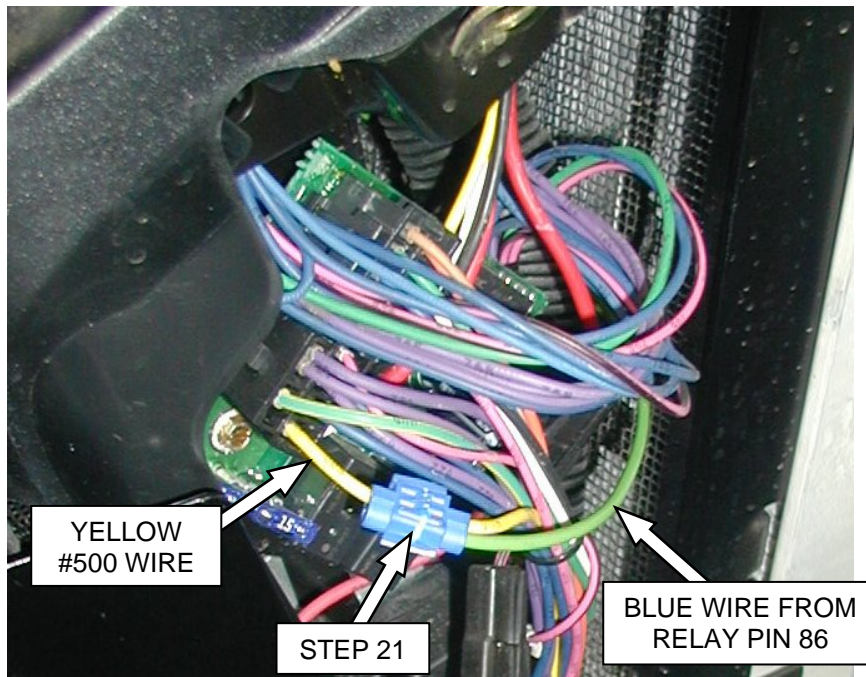

Figure 11
- 21) Route the 66" blue wire from relay PIN 86 to the tractor's electrical panel, located on left side of cowl. Use a 3-way wire splice or T-tap connector to connect the blue wire to yellow #500 wire. See figure 11.